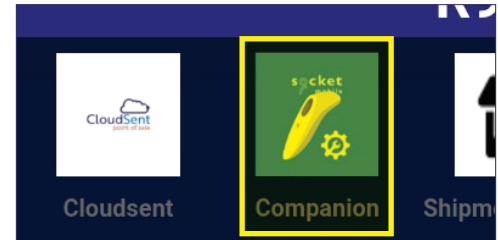

Figure 36
1. On the tablet, launch the Socket Mobile Companion App (Figure 36).